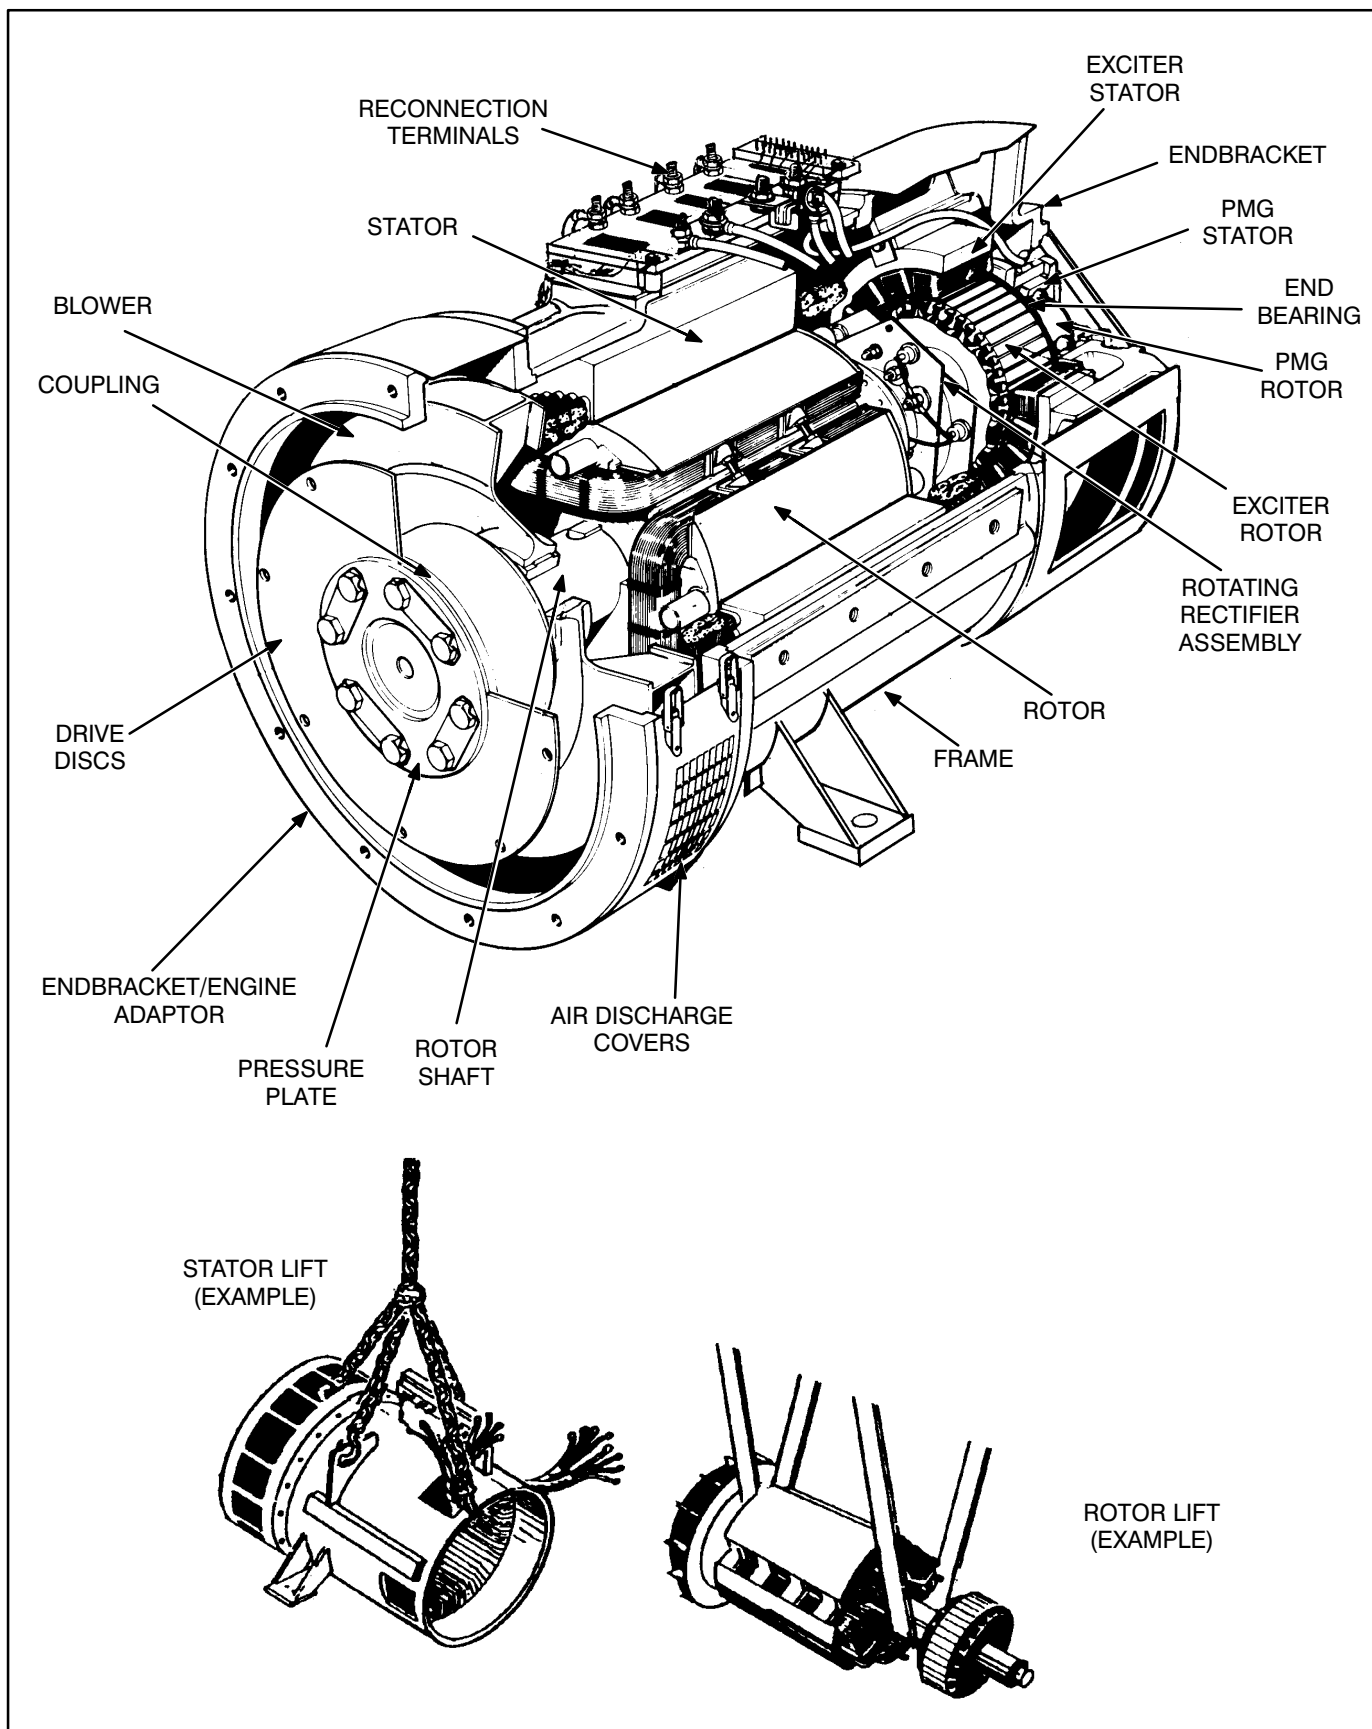
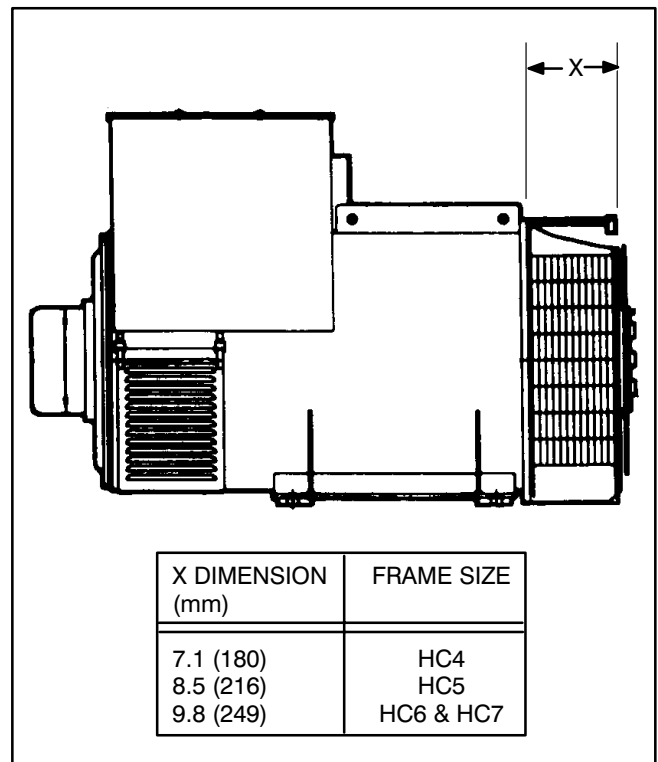

FIGURE 7-11. TYPICAL GENERATOR ASSEMBLY
FIGURE 7-13. GENERATOR FRAME SIZE
24. Using a forklift, position a lifting bar of the forklift (inside and inline with the generator) under the rotor shaft. Lift the rotor shaft slightly so that rotor is not resting on inside of stator assembly. See Figure 7-11.
27. Reposition or add hoist and sling support for the main rotor, and remove the forklift. See Figure 7-11, Rotor Lift detail.
32. Using an adequate lifting device, lift the generator (at lifting eyes provided, and main stator housing) until the mounting feet brackets are clear of the frame member (see Figures 7-11 and 7-12).
- Align the holes of the engine adaptor endbracket with the holes in the flywheel housing and install the capscrews and lock washers. Refer to Figure 7-13 and Table 7-3 for torque specifications.
- Secure the rotor assembly to the flywheel. Refer to Figure 7-13 and Table 7-3 for torque specifications.
19. Secure the rotor assembly drive disc to the flywheel using appropriate capscrews and flat washers. Refer to Figure 7-13 and Table 7-3 for torque specifications. Do not allow rotor assembly to hang on engine flywheel. (Refer to Figure 7-11.)
21. Using a forklift, position a lifting bar of the forklift (inside and inline with the generator) under the rotor shaft. Lift the rotor shaft slightly so that rotor is not resting on inside of stator assembly. See Figure 7-11.
22. Remove the hoist/sling support of the rotor assembly. Align the holes of the engine adaptor endbracket with the holes in the flywheel housing and install the capscrews and lock washers. Refer to Figure 7-13 and Table 7-3 for torque specifications.